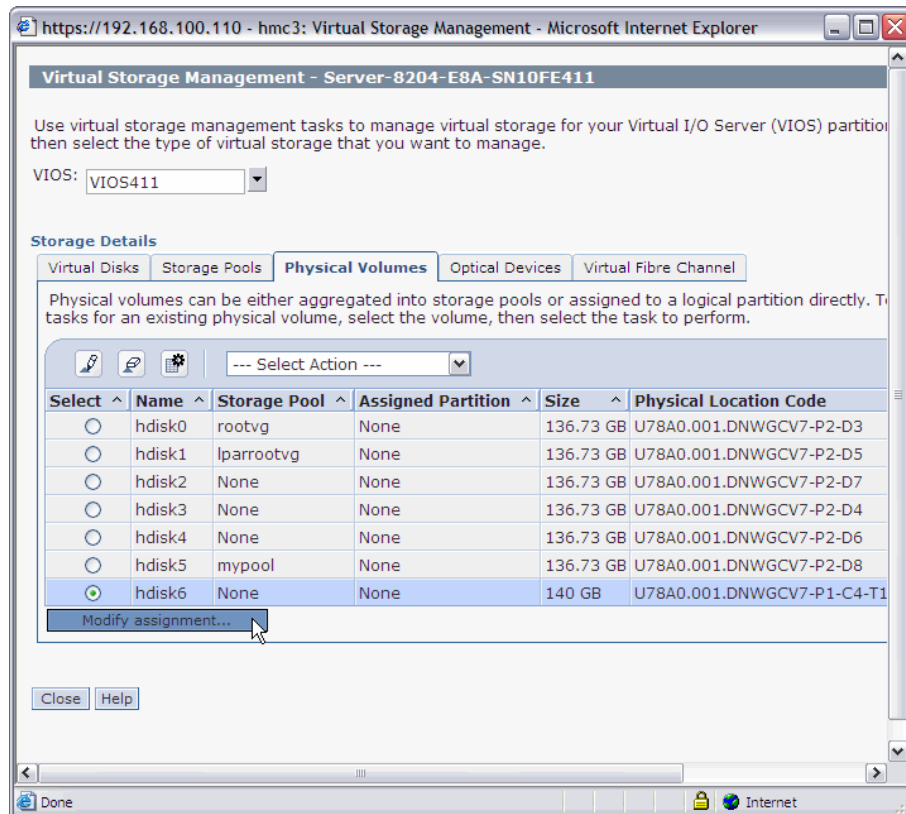

Figure 3-5 Hard Disk Selection
16. Select the required hard disk, such as hdisk6, to map to the client partition and click **Modify Assignment**, as shown in Figure 3-5.